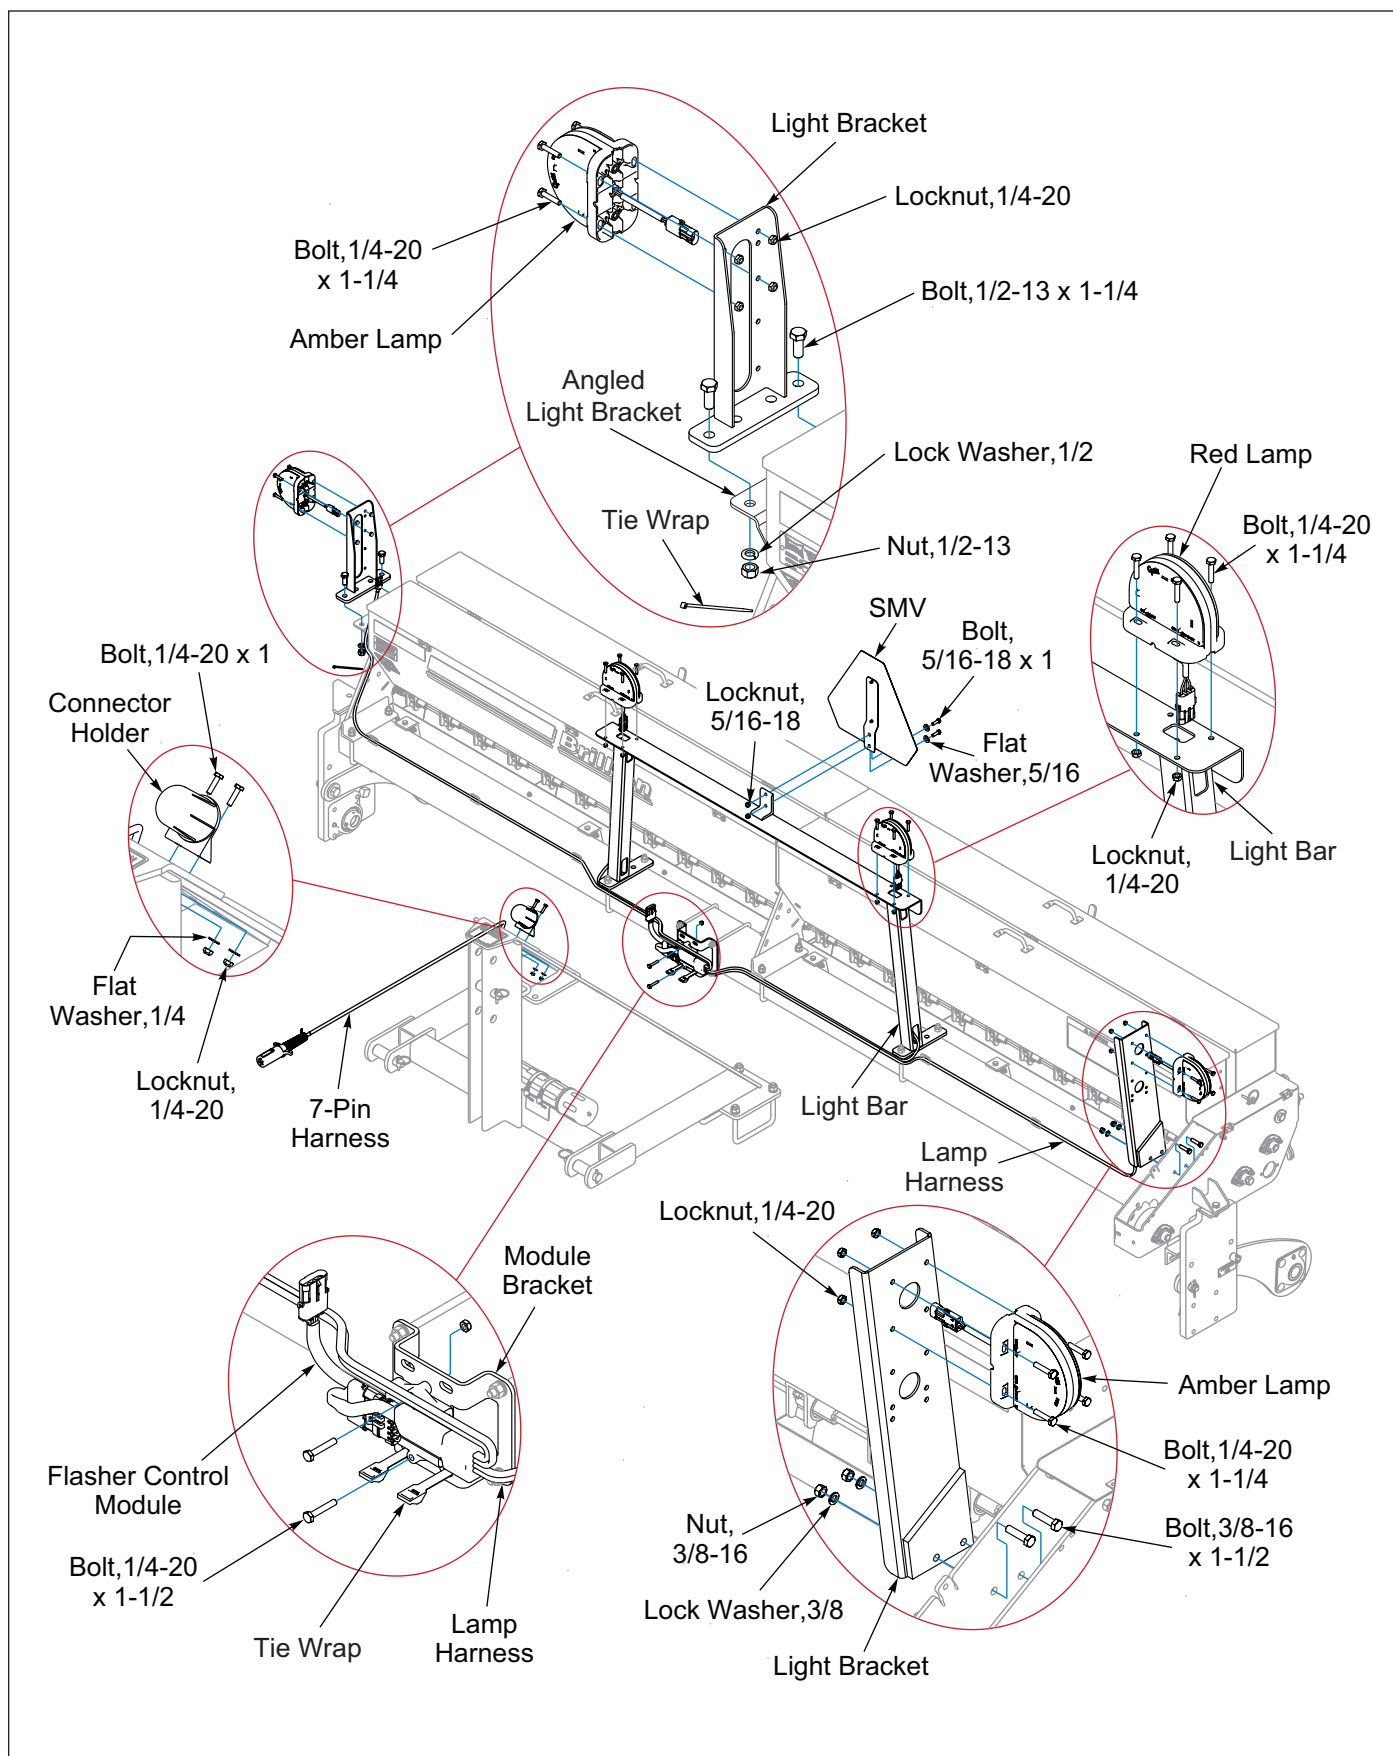

Figure 2-17: Warning Lamp Installation - 12FT
1. Place a Red Lamp at each end of the Light Bar and insert the Red Lamp cord into the Light Bar cutout. Secure Red Lamps to Light Bar with 1/4-20 x 1-1/4 Bolts and Locknuts. **See Figure 2-17.**